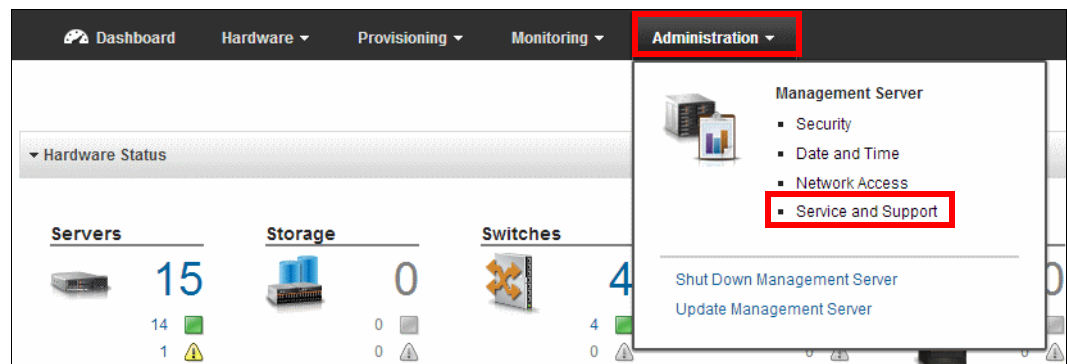

Figure 7-18
1. From the LXCA menu bar, click **Administration** → **Service and Support**, as shown in Figure 7-18.